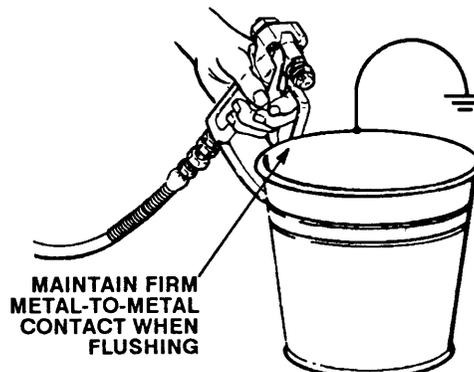

Fig 6
7. Hold a metal part of the gun firmly against a metal pail. See Fig 6. Hold the trigger open, turn on the sprayer, and slowly increase the pressure just until the sprayer starts. Keep the gun triggered until all air is forced out of the system and the solvent flows freely from the gun. Release the trigger and engage the gun safety latch.